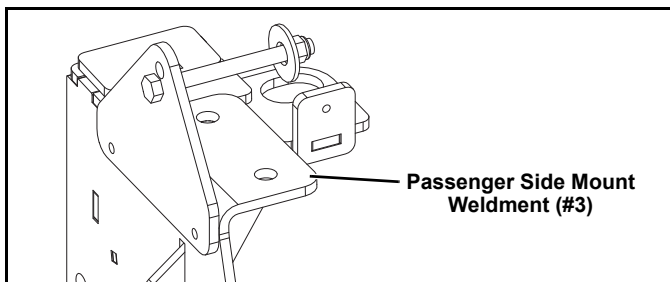

Figure 1-4
4. Repeat steps 2 & 3 for installing the Passenger Side Mount Weldment (#3) (See Figure 1-4).